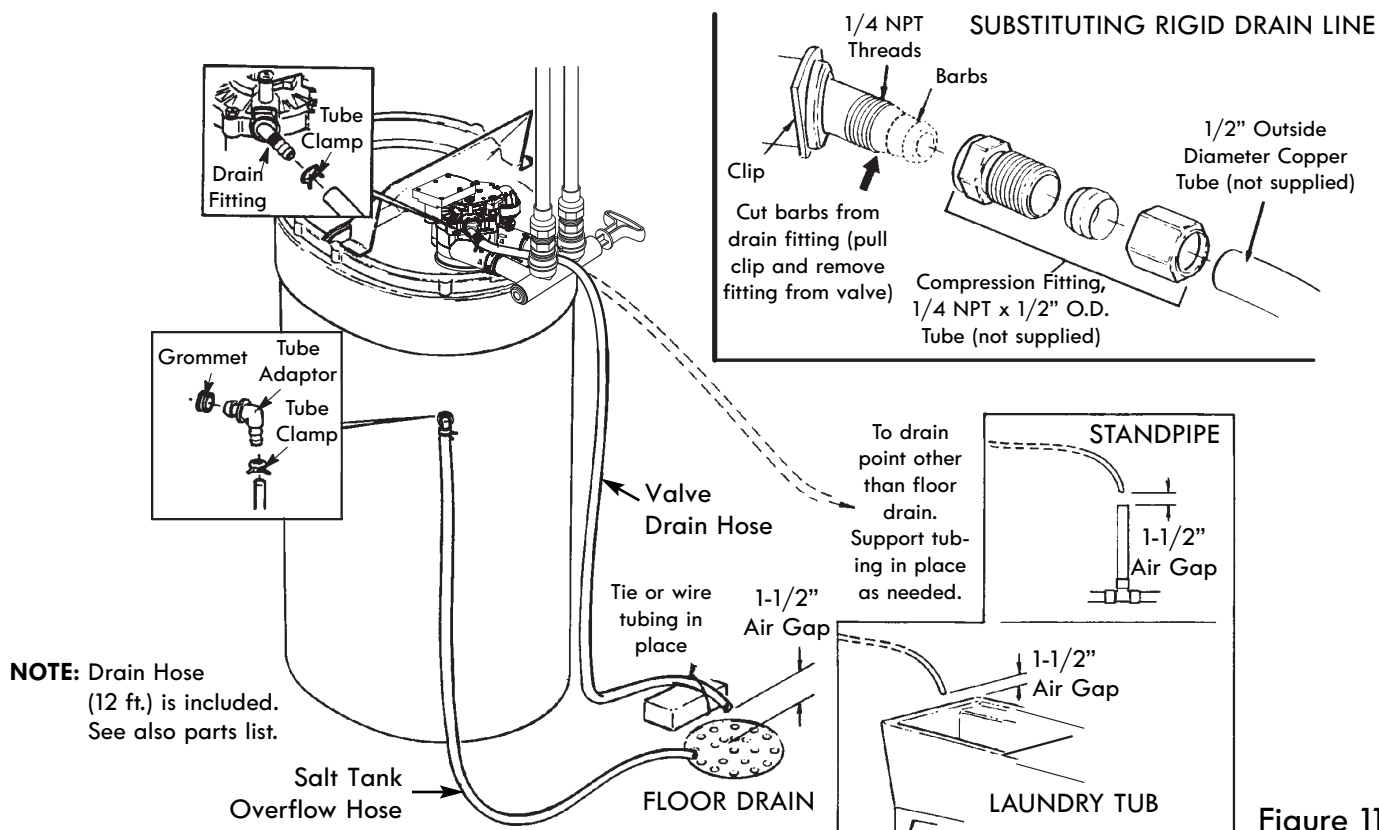

Figure 11
Take a length of 3/8" inside diameter drain tubing (supplied) and attach one end to the drain fitting (see Fig. 11). Use a tube clamp from the parts bag to hold it in place. Put the other end of the tubing over a floor drain, into a laundry tub, standpipe, or other suitable drain. Check your local codes.
1. Locate the rubber grommet, adaptor elbow and tube clamp (see Fig. 11) that are in the parts bag.
IMPORTANT: Overflow water must run down by gravity through the tubing. Do not raise the tubing higher than the adaptor (see Fig. 11).